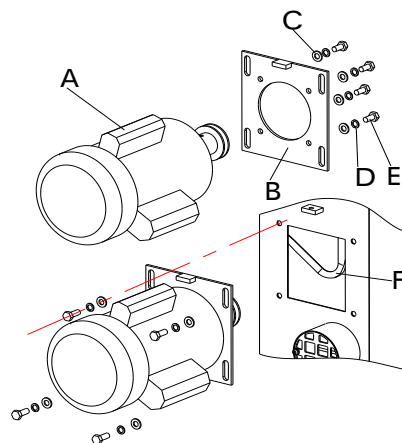

Fig. 5
Firstly, you assemble motor (A) to the motor flange (B) by hex bolt (E) 、 lock washer (D) and flat washer (C) .secondly, assemble them to the frame by hex bolt、 lock washer and flat washer. Then tension the v-belt by motor gravity, Finally ,tighten the bolts. In fig. 5.